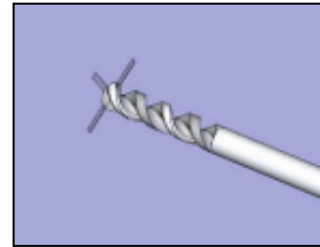

Figure 3
STEP 3: Drill a ⅛” (3.2 mm) hole through all markings for the nylon screw mounts (Figure 3).